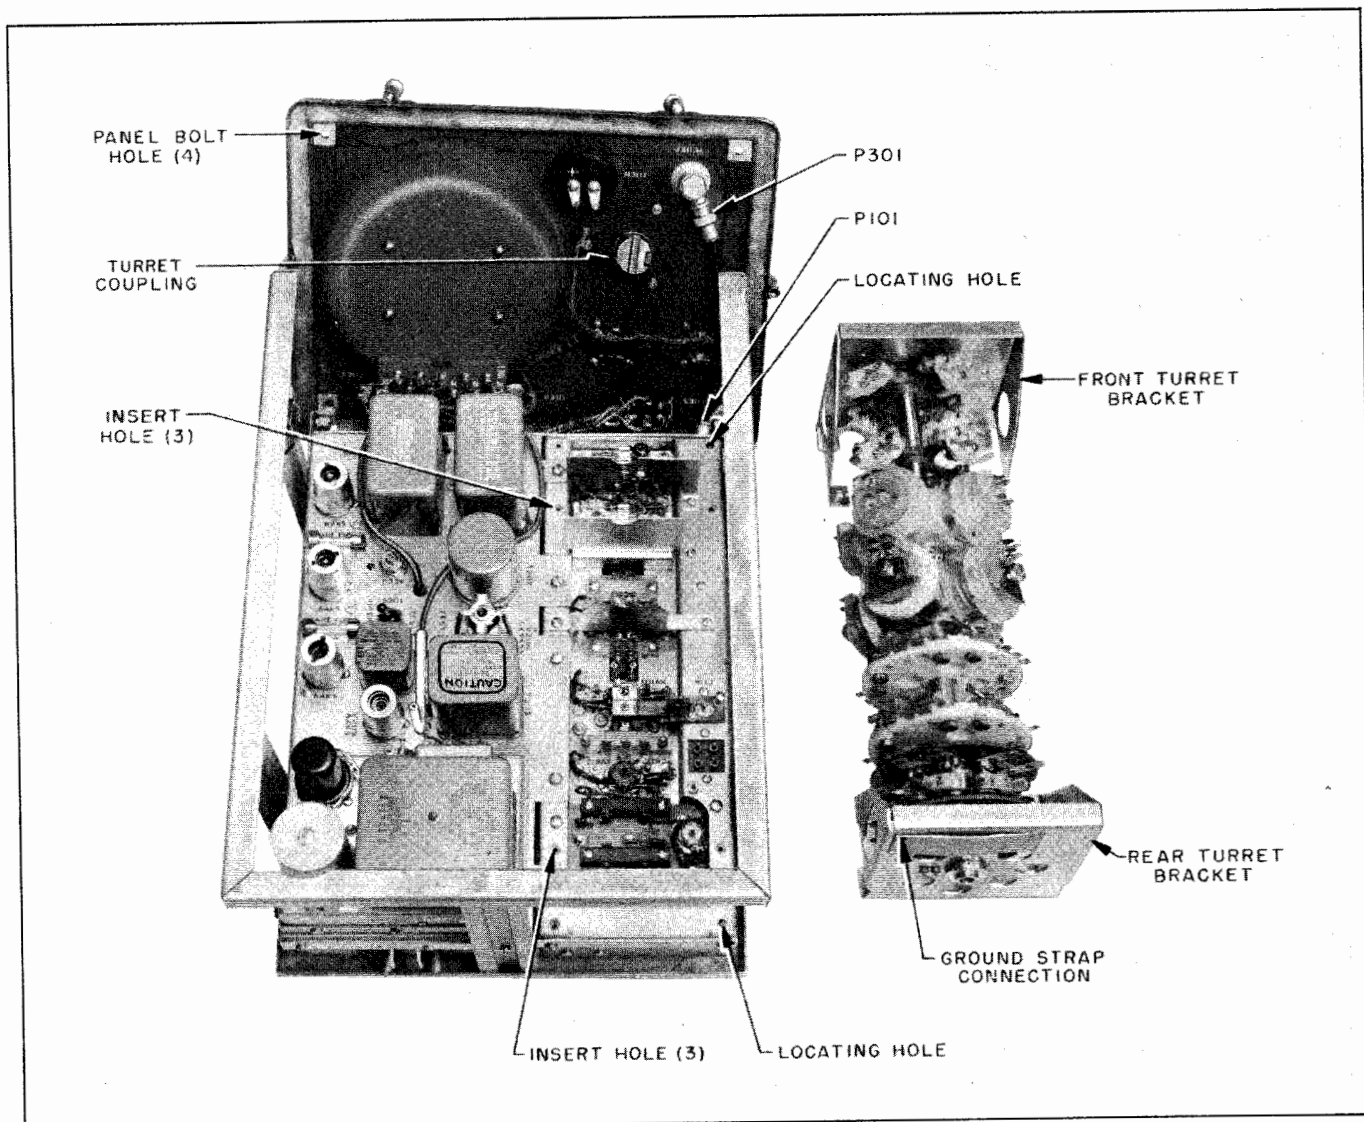

Figure 7-8.—Removal of Coil Turret.
To drop the control panel as shown in figure 7-8, it is only necessary to remove P301 or P101, remove the four corner bolts securing the panel to the longitudinal members of the main frame, and ease the panel forward to disengage the coil turret from the CHANNEL SELECTOR drive. Be careful not to misplace the bolts. All control panel components are now readily accessible.
undersides of sockets XV101—XV106 inclusive. It is accomplished as follows (see figure 7-8):
(1) After removing the turret from the Transmitter-Receiver as described in paragraph *b.* above, pull the front and rear turret brackets off the shaft (see figure 7-8).
(2) Drive out the taper pins securing to the shaft all individual assemblies up to and including